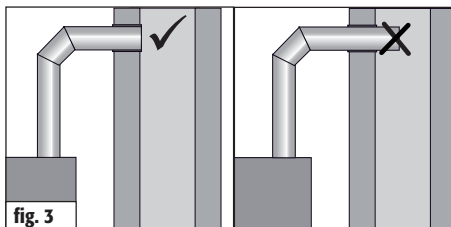

fig. 3
**The flue pipe must be well sealed at the chimney entrance and cannot project into the inner cavity of the chimney; otherwise the flue venting will be impaired (Fig. 3).**